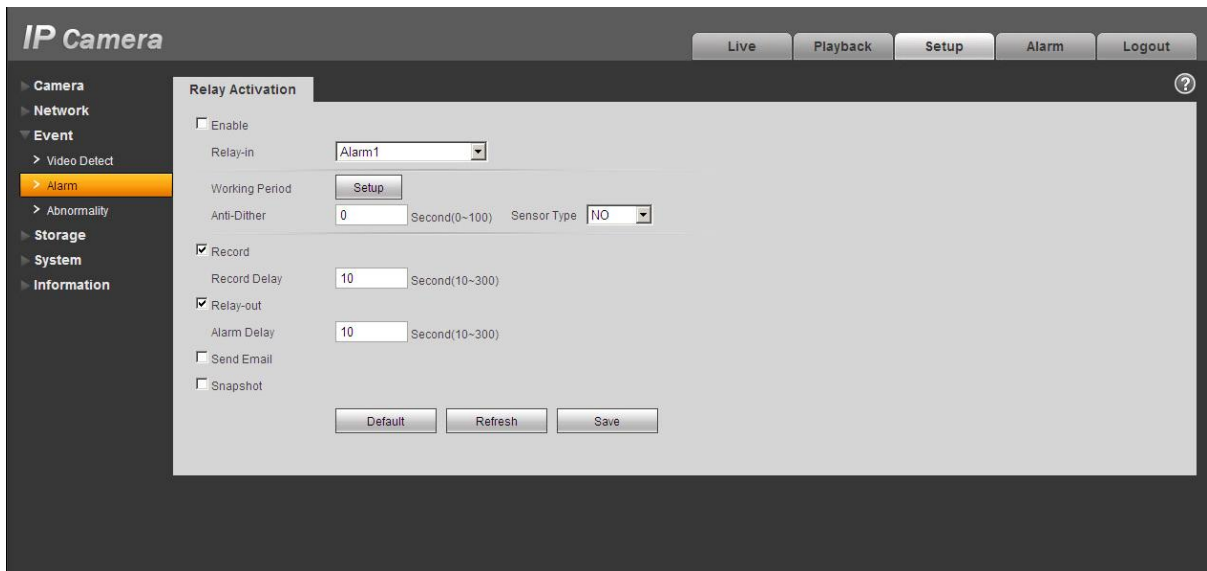

Figure 1-4 Alarm
The alarm interface is shown as in Figure 1-4.
- Step 3. Open the Web, go to the Figure 1-4. Here you can set the alarm input setup and alarm output setup. Here the alarm input is the alarm input on the rear panel (as IN port). Then you can select the corresponding type (NO/NC) according to the high/low level type when an alarm occurs.